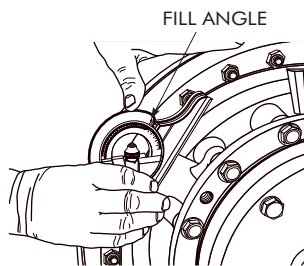

Figure 5
- B. Use either an angle finder or a bevel protractor with spirit level set for the required fill angle, and place it on flat boss of filler hole as shown in Figure 5.